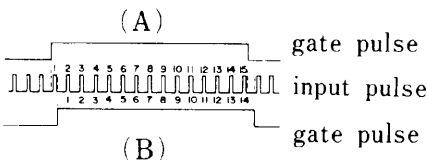

Figure 2
Referring to Figure 2, note that the counter will count 15 pulses if the measurement is made as in (A), but only 14 pulses if the measurement is as in (B). This error will occur only on the last digit.